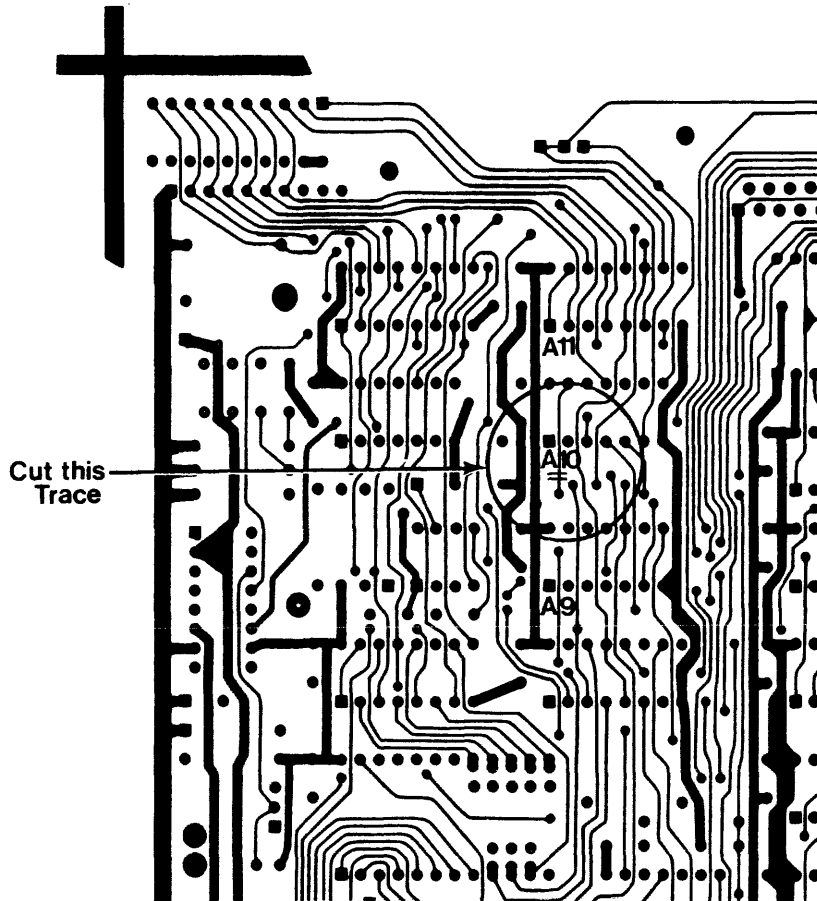

Figure 9-2 Cut on Component Side of Logic Board
2. On the component side, cut the trace which lies in between pins 1 and 2 of the IC located at A10 (as shown in Figure 9-2).